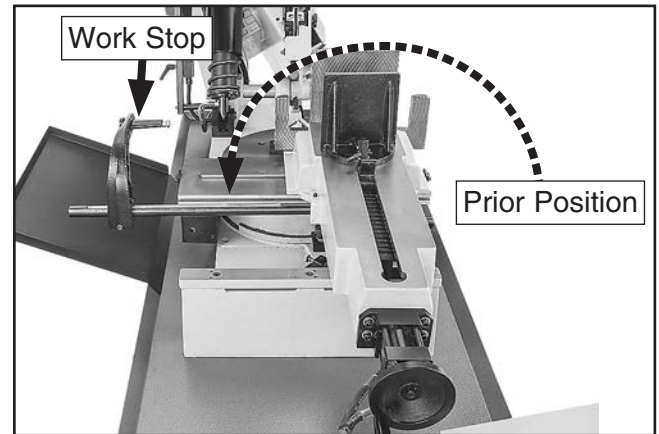

Figure 41. Work stop repositioned.
- To use work stop on opposite side of machine for straight or angle cuts (see **Figure 41**), remove work stop arm from stop rod, then remove stop rod.